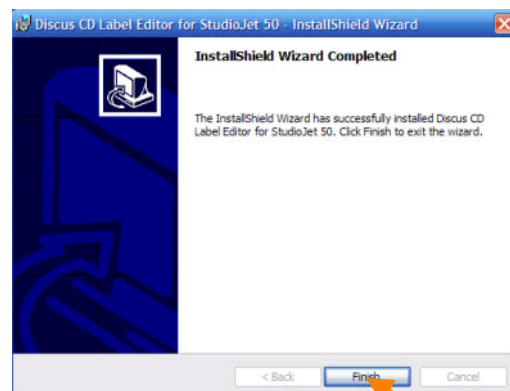

Figure 2.20
5. After the files have been copied click **Finish** to close the Install Shield Wizard for Discus LE (Figure 2.20).